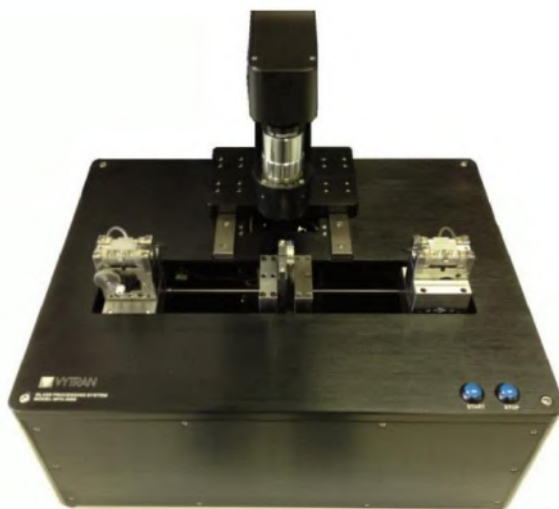

Figure 1 **GPX3800 Workstation**
The Vytran Glass Processor has three basic components: a splicing and glass processing workstation, a personal computer (PC), and a gas supply. The splicer workstation is illustrated in Figure 1.